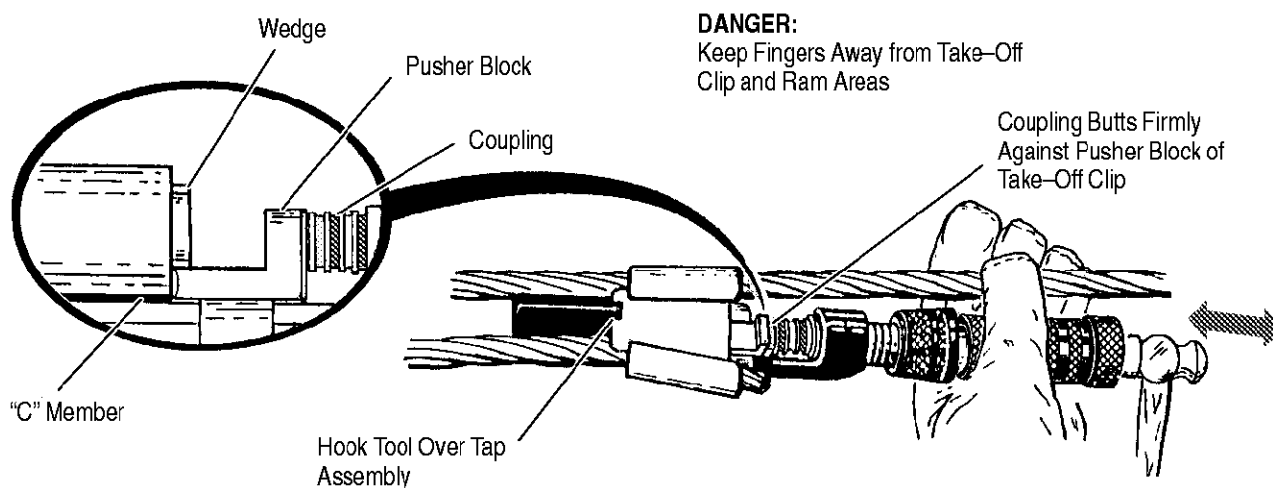

Figure 35
1. Grasp the tool only at the knurled breech cap assembly to steady the tool for firing. See Figure 35.